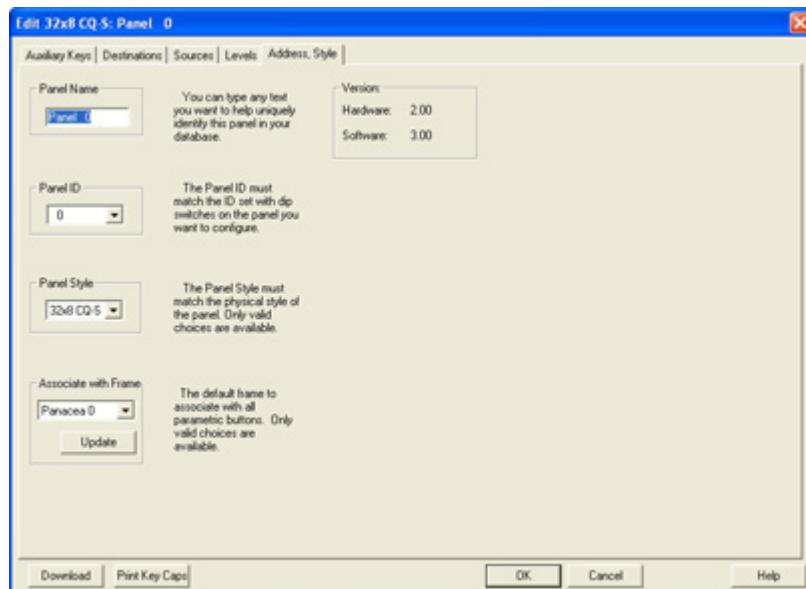

Figure 8 Address, Style Tab
- 5. Select the Address, Style tab. Panel information should appear as shown in **Figure 8**.